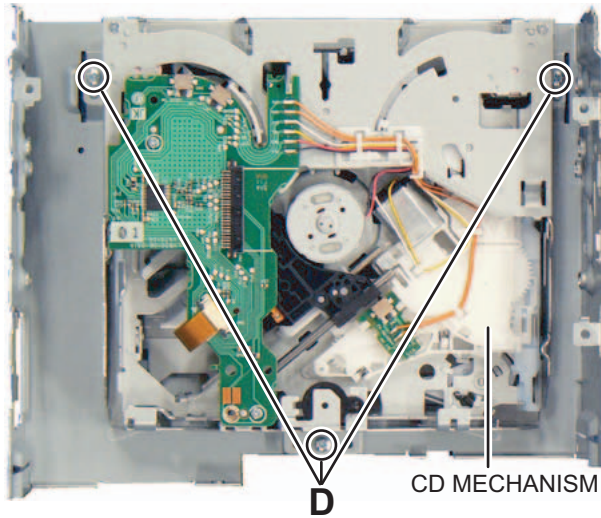

Fig.6
3.1.3 Removing the CD mechanism (See Fig.6)
(See Fig.6)